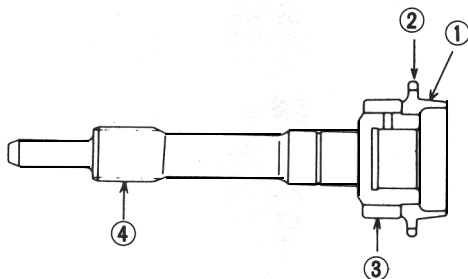

Fig. 13-34
Referring to Fig. 13-34, inspect cone ① and toothed ring ② for wear and damage.